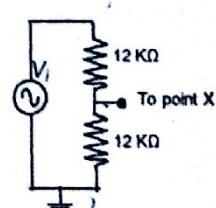

Fig. 7.2 Voltage Divider
5. Now apply a fraction of the voltage  $V_i$  (keeping  $V_i$  at 200 mVp-p) to the point 'X' through the potential divider circuit as shown in Fig. 7.2 and note the values of  $V_o$  for
- 5) Now apply a fraction of the voltage  $V_i$  (keeping  $V_i$  at 200 mVp-p) to the point 'X' through the potential divider circuit as shown in Fig. 7.2 and note the values of  $V_o$  for